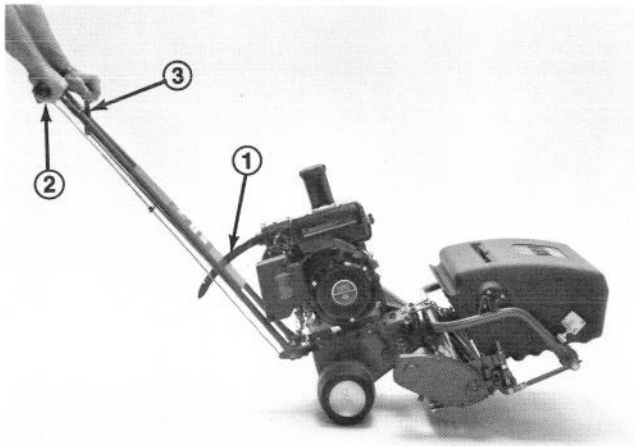

Figure 20
2. Place the handle assembly in the uppermost notch on handle adjusting bar. Set throttle control in SLOW, tip front of machine up and slowly increase engine speed while gradually engaging traction drive control lever so mower moved forward slowly (Fig. 20).